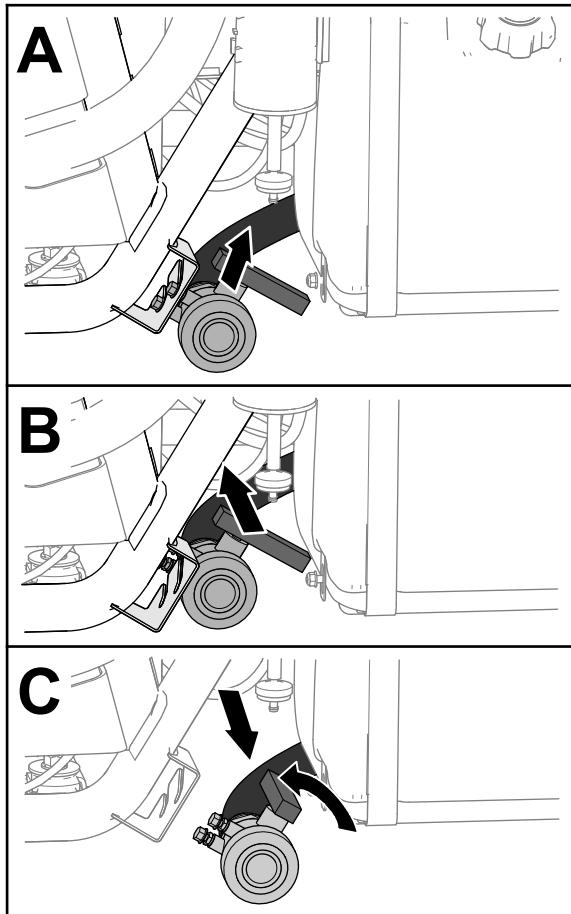

Figure 26
2. Locate the tank-drain valve at the left side of the machine, forward of the fuel tank (Figure 26).
3. Lift the valve and move it inboard until the mount studs of the valve clear the slots in the drain-valve bracket, and move the valve rearward (Figure 26).
4. Align the end of the valve with the drain container and rotate valve handle counterclockwise to the open position (Figure 26).
5. When the tank has drained completely, rotate the drain-valve handle to the closed position and assemble the valve onto the drain-valve bracket (Figure 26).